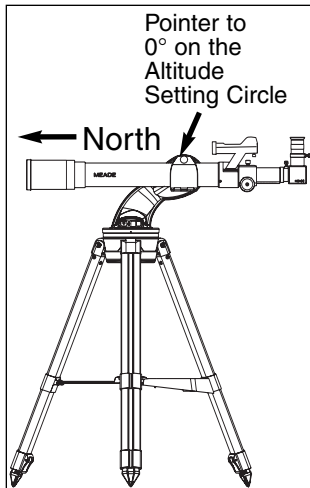

Fig. 16: Alt/Az Home Position.
1. Loosen the telescope's Altitude lock (see **Fig. 16 and 17**).
IMPORTANT NOTE: *The accuracy of One-Star Alt/Az Alignment, unlike the Two-Star Alignment procedures, depends on how well the observer levels the telescope and how close to North the telescope is pointed when setting the Home Position (Fig. 16). Because the Two-Star Alignment methods use two stars to align upon, they are more precise than One-Star Alignment.*